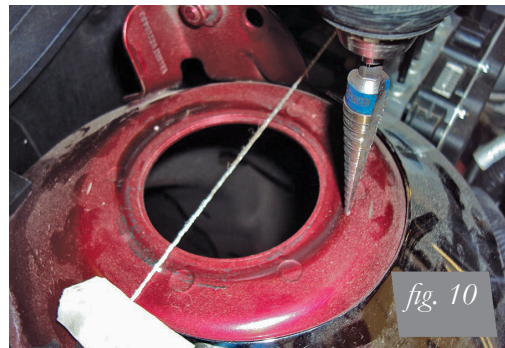

fig. 10
3. Mark the hole centers on the strut tower (fig. 10), center punch each hole location and drill an 11/32" hole at each point (fig. 11).